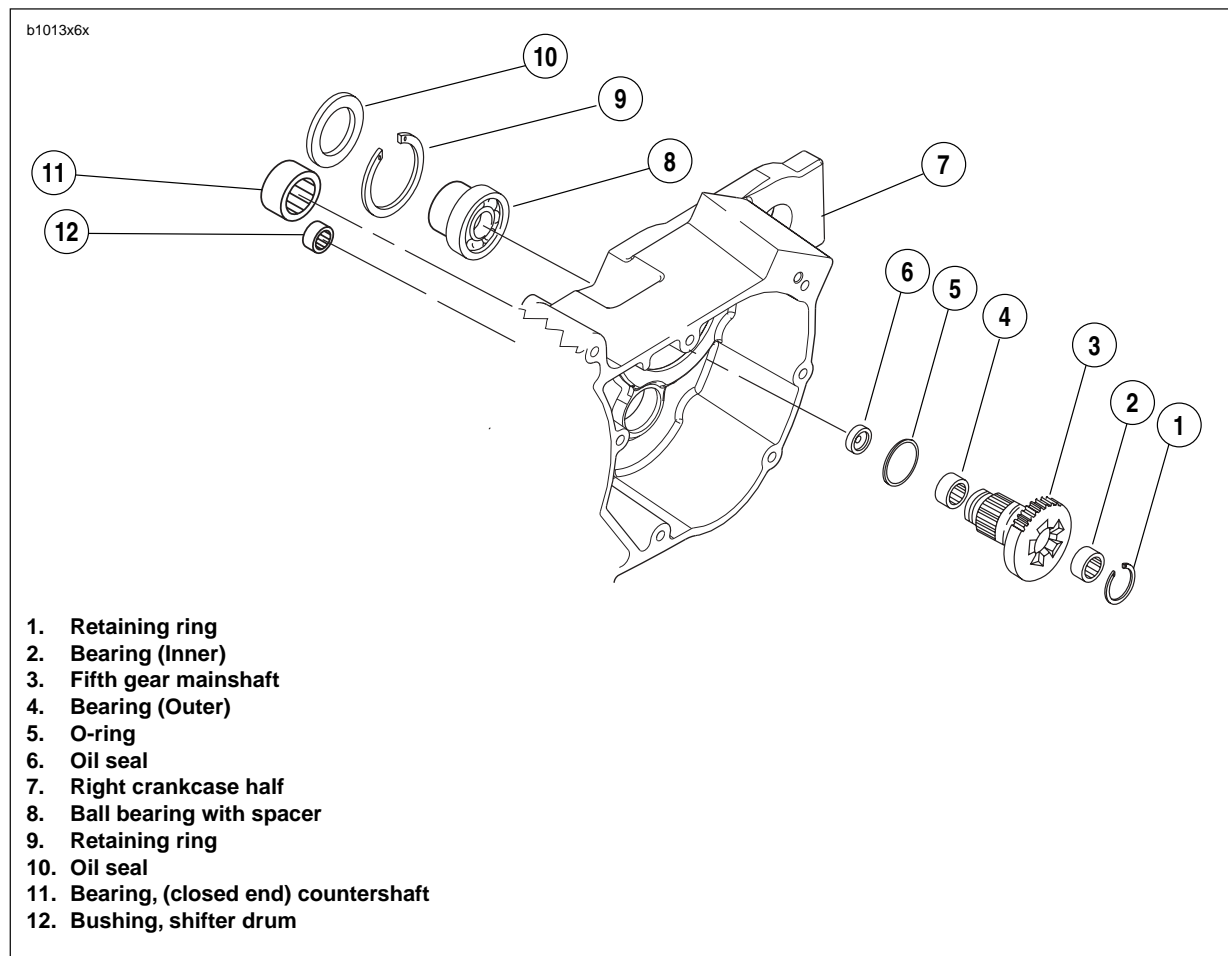

Figure 6-66. Transmission Assembly-Right Crankcase Half
See *Figure 6-66*. When removing the main drive gear (3), the gear is pressed out against the resistance of the ball bearing (8) inner race. Without any support at the inner race, the bearing is destroyed. Whenever the main drive gear is removed the main drive gear bearing must also be replaced.
1. See Figure 6-66. At outside of case remove and discard oil seal (10). Remove and discard main drive gear bearing retaining ring (8).
6. See Figure 6-66. At outside of case install **new** beveled retaining ring (9) in groove inside bearing bore with beveled side facing outside of case.